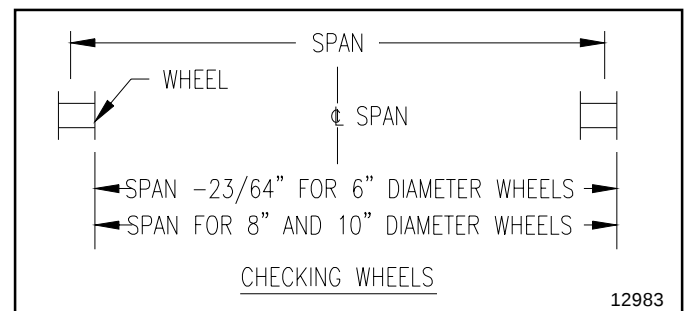

Figure 4.
3. To check the distance between the trucks, push all truck wheels toward the center of the span. The distance from the outside of the wheel on one side of the span to the inside of the wheel on the other side of the span should equal the span length for the 8" and 10" diameter wheels. For the 6" diameter wheels this dimension should be the span length minus $\frac{23}{64}"$. See Figure 4. The tolerance on these distances is $\pm \frac{1}{32}"$.